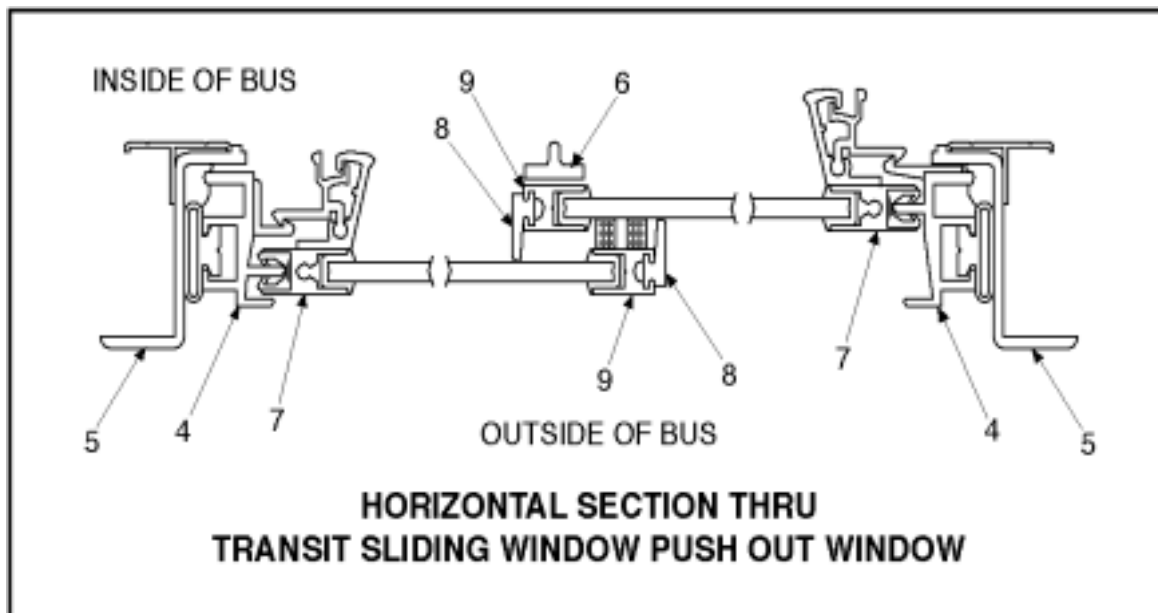
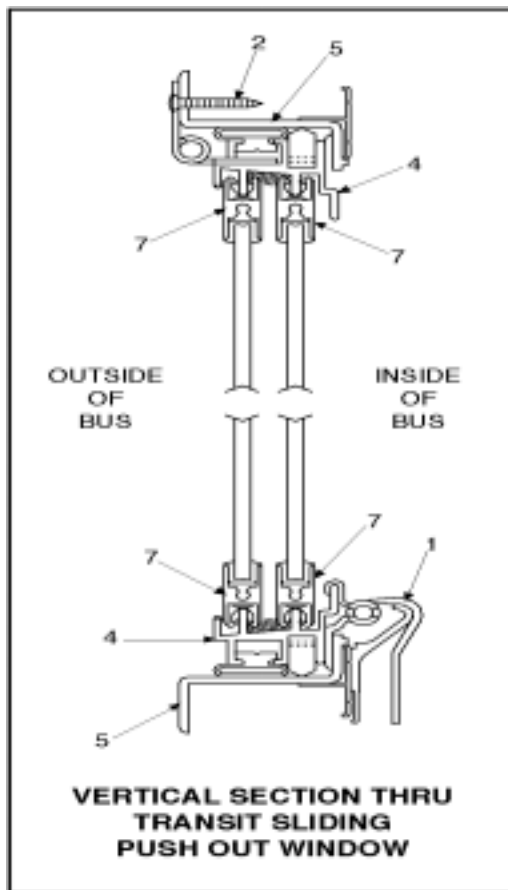
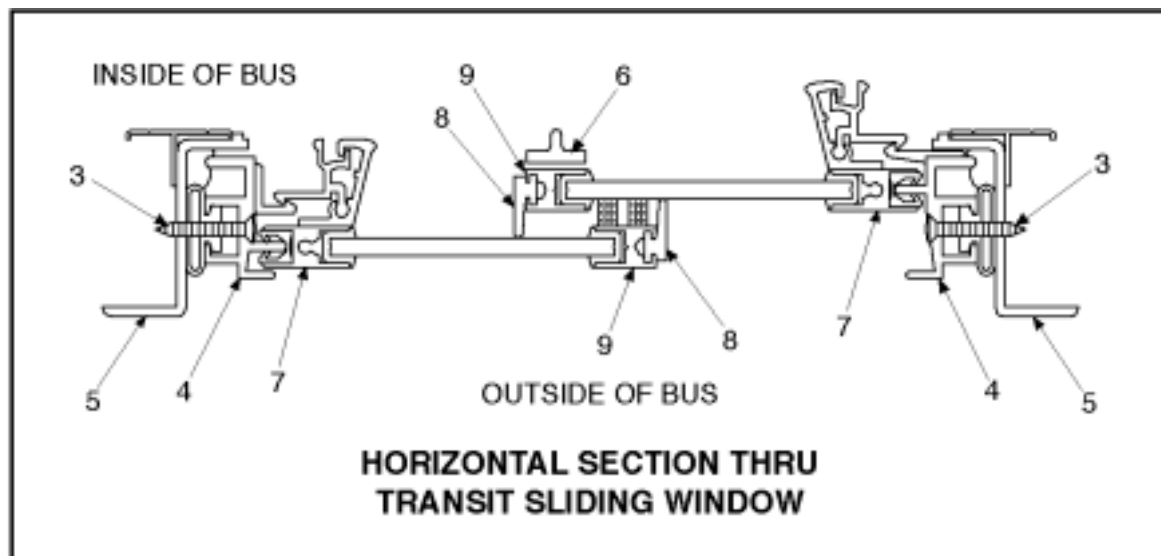

Figure 8—Horizontal Section
Figure 9—Vertical Section
Figure 10—Horizontal Section Through Transit Sliding Window
See **Figures 8 through 11.**
1. To remove push-out transit sliding window, release window lever (1) located inside the bus at the bottom of each push-out window. **Figure 8** and **Figure 9**.
2. See Remove hinge screws (2) on outside of body. **Figure 9**.
4. To remove stationary transit sliding window. Remove all screws between inner frame (4) and outer frame (5).
6. Remove four screws and take out vertical brace (6) located in the center of the window. **Figure 8** and **Figure 10**.
9. Spread apart the inner frame (4) just enough to lift glass frame (7) out.
10. To remove glass from frame, slide rubber seal (8) out of vertical rail (9) exposing two screws.